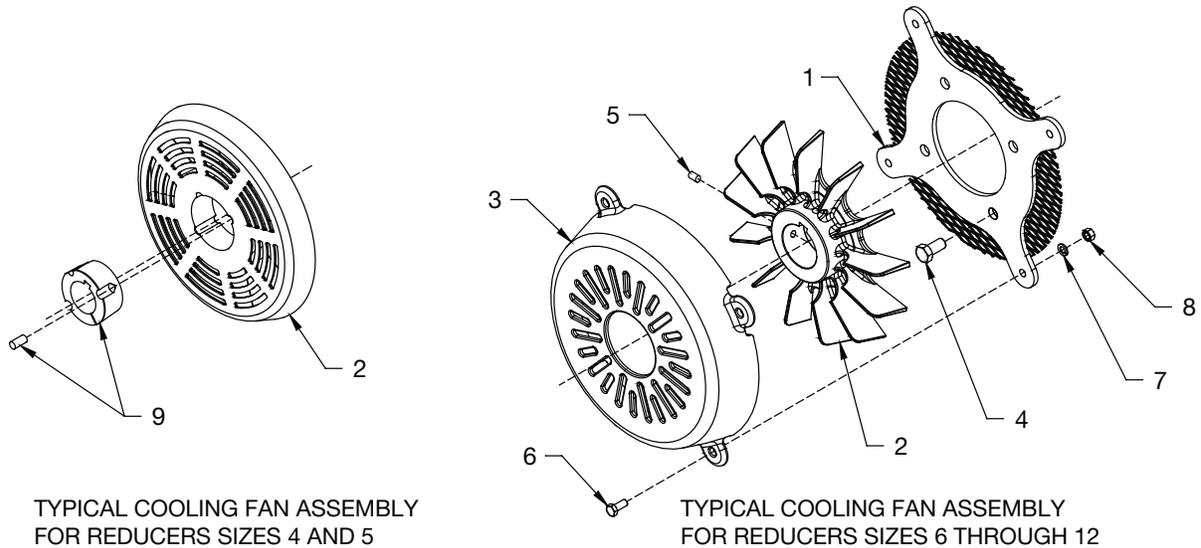

Figure 9 - Parts Identification
1. Remove backstop shaft cover and gasket, shown in Figure 9. These parts will not be reused. This cover is directly opposite the extended end of the input shaft.